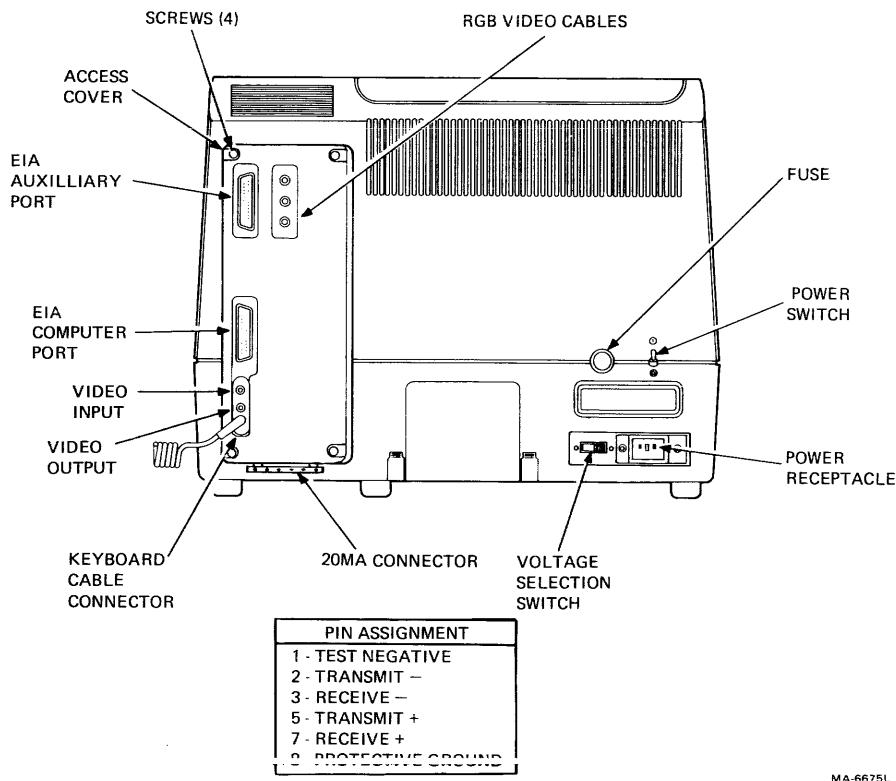

Figure 10-1 20 mA Connector and Pin Locations
This option is an optional interface used to connect the VT125 terminal to a computer. The 20 mA option is a board installed into the VT125 terminal and an interface connector. Figure 10-1 shows the 20 mA current loop interface connector and pin assignments. The 20 mA current loop interface option can operate at a distance up to 300 meters (1000 feet).
1. Turn power switch to the OFF position and disconnect the power cord (Figure 10-1).
5. With a number 2 Phillips screwdriver, remove the four screws holding the VT125 access cover in place (Figure 10-1). Remove the access cover.
1. Turn the power switch OFF and disconnect the power cord (Figure 10-1).